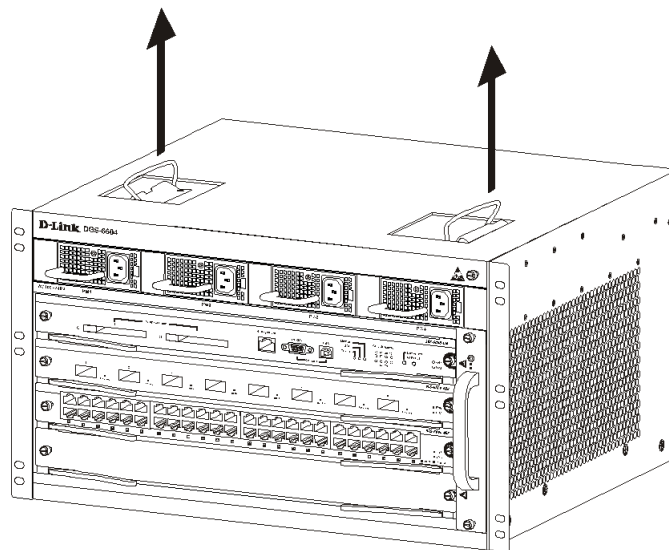

Figure 1 Diagram showing how to correctly hold, while moving, the DGS-6604
- When lifting or handling the DGS-6600 series switch use the lifting handles show in Figure 1. No other parts of the DGS-6600 series switch should be used for lifting or handling.
Before moving the chassis, remove all line cards, the fan tray, and all power modules. After removing all line cards, the fan tray, and all power modules, use the handles on the top of the chassis (Please see Figure 1.) to move the Switch to avoid causing any damage.